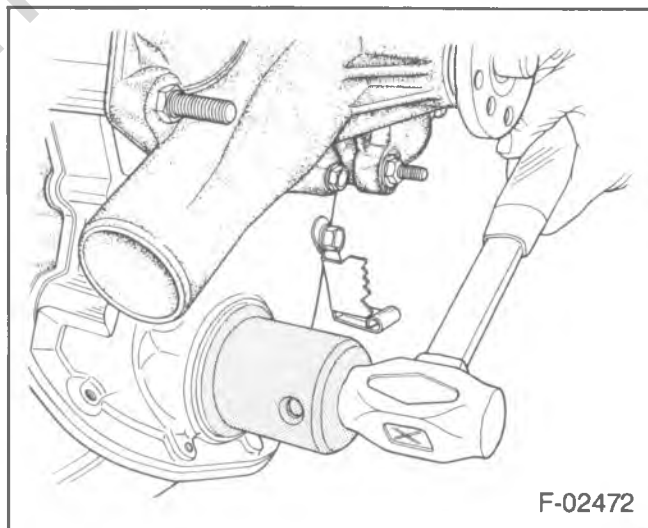

Figure 13—Installing the Front Crankshaft Seal
Install or Connect (Figure 13)
1. New front crankshaft seal. Use J-22102 (figure 13). Lubricate the seal lips with engine oil.